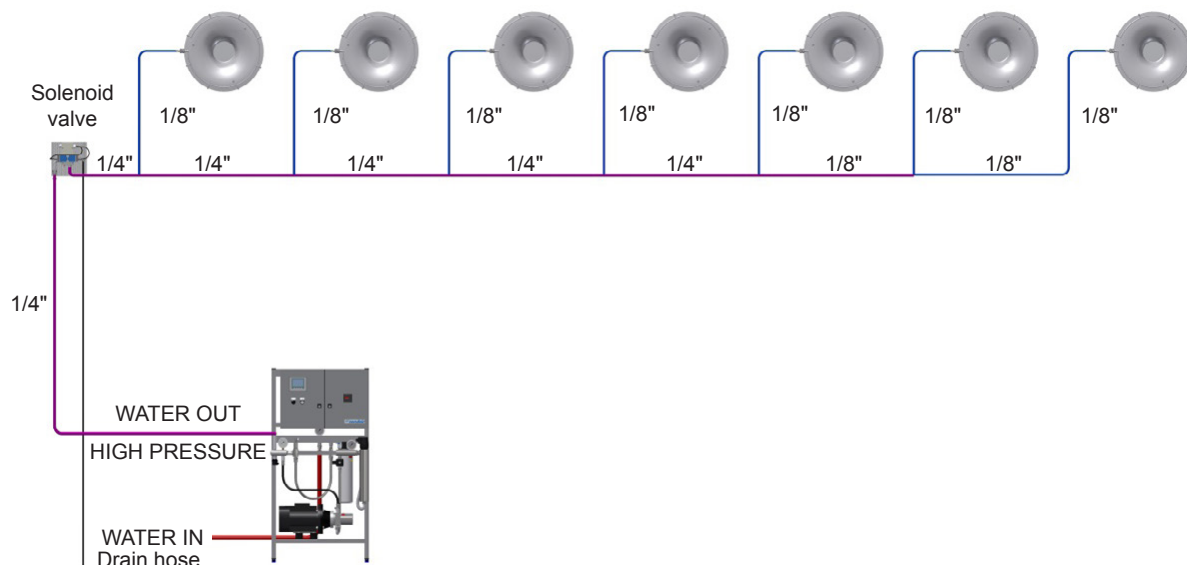
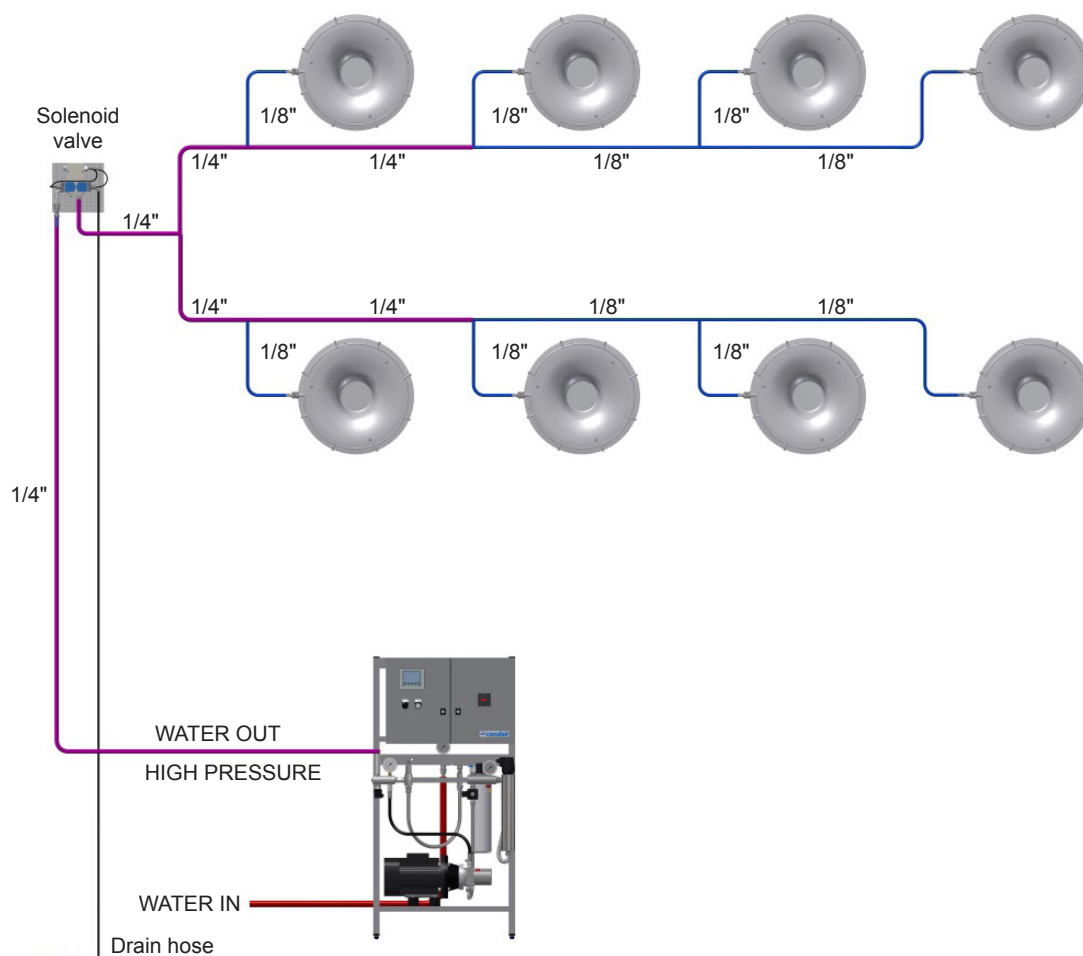
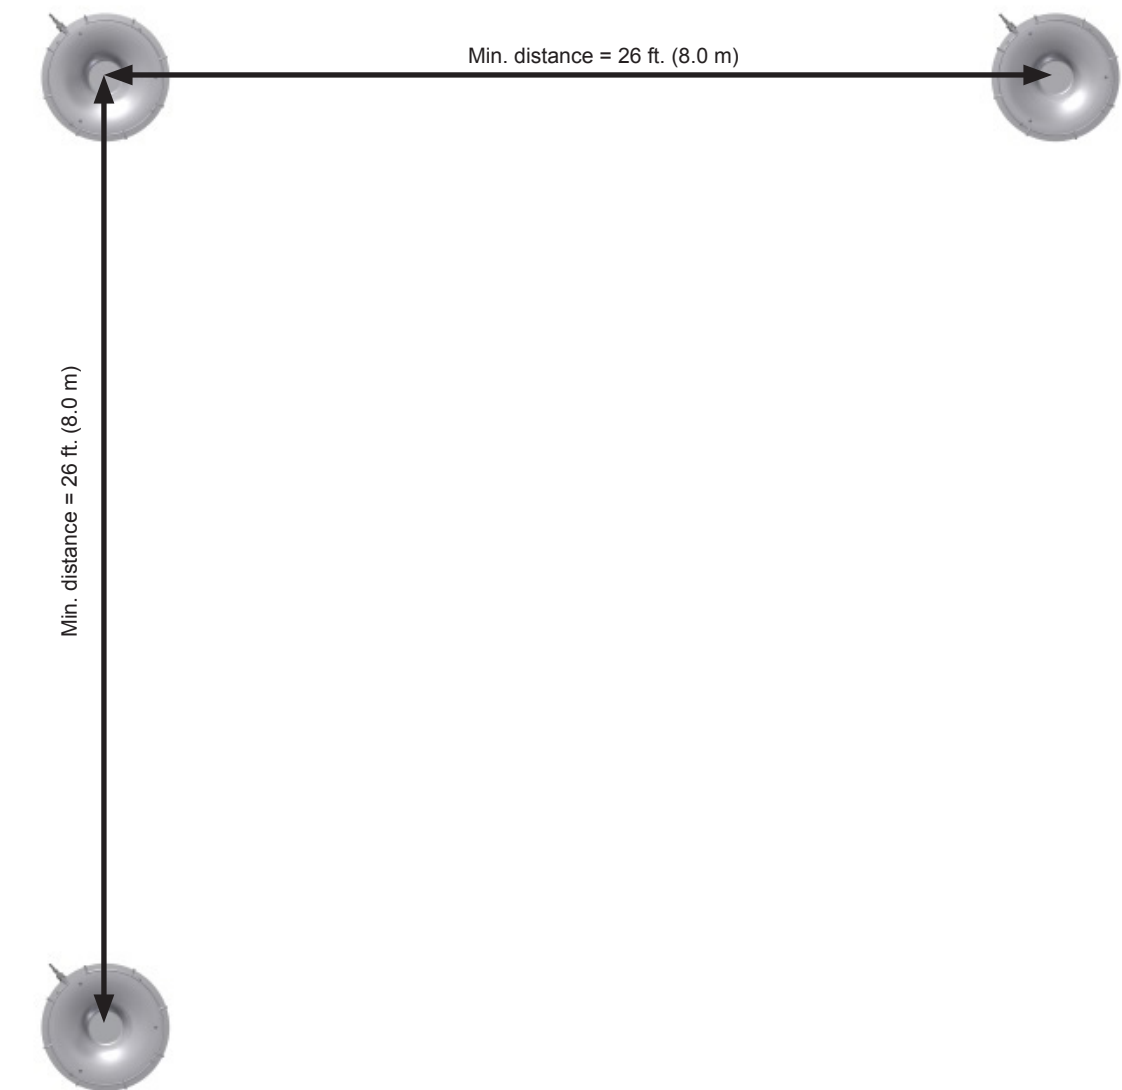
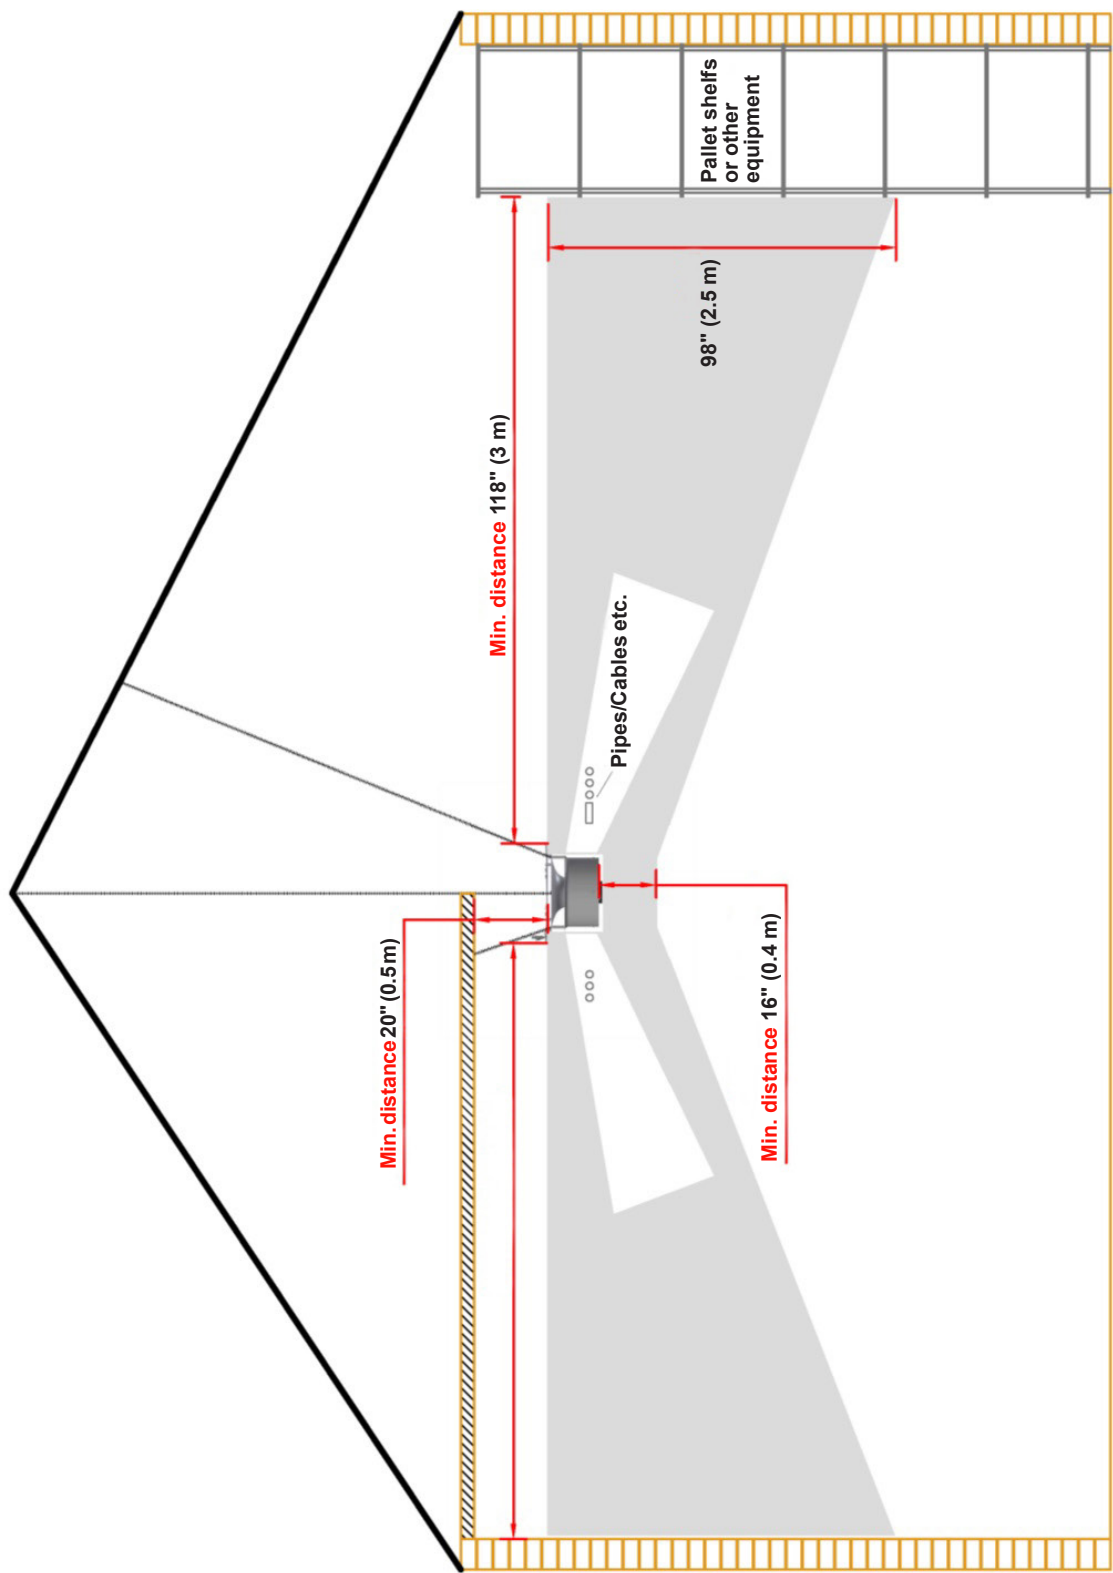

Figure 7: Hose layout inline
Figure 8: Hose layout parallel
Figure 9: Distances between modules
Figure 10: Miscellaneous mounting distances
The positioning of a system is always determined during planning and noted in the system documents. Prior to mounting the ML Princess unit, ensure that all hose layouts, distances between heads and atomization clearances have been considered and adhered to, as per Figure 7, Figure 8, Figure 9 and Figure 10.
- Figure 10 shows the recommended clearances, of the expansion of the atomization stream, and the clearances that have to be maintained. These are ideal and recommended maximum capacities using ML nozzles. Different weather, climate and indoor conditions can alter the spread and distance of the mist. As shown in Figure 9, when the nozzles and humidification heads are placed one opposite the other, make sure that a minimum distance of 26 ft. (8.0 m) is adhered to. This will avoid the streams to condensate each other.